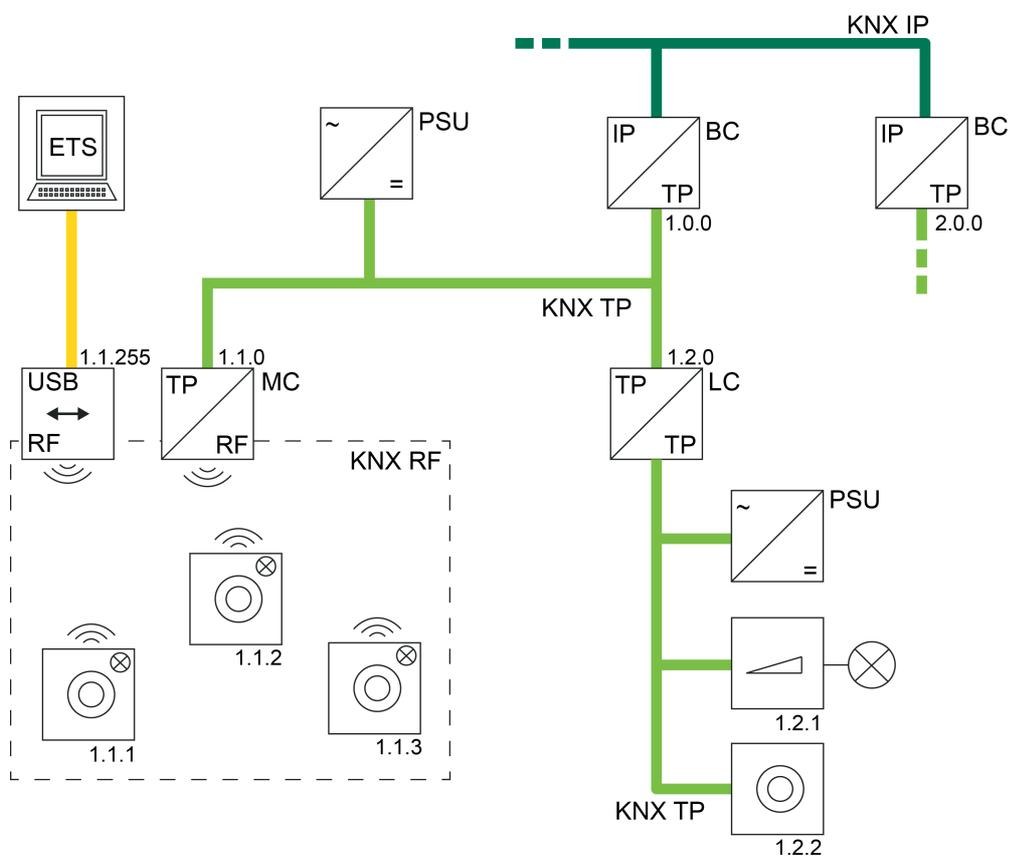

Figure 41: Example of a possible KNX topology with a KNX RF USB data interface
- Use of a KNX RF USB data interface (figure 41):